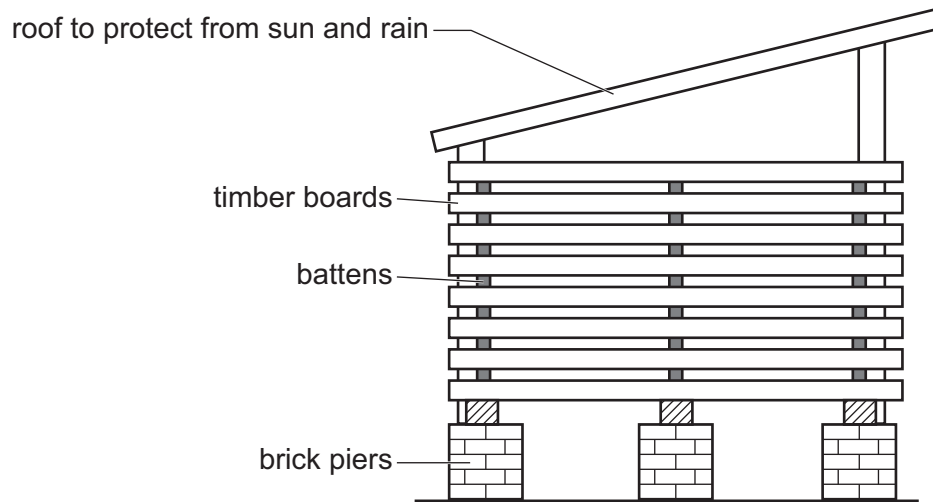

Fig. 1.1
- 1 Fig. 1.1 shows timber being seasoned naturally in the open air.